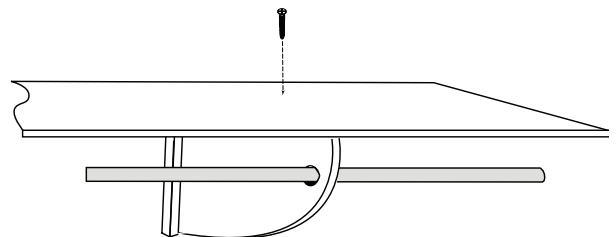

Fig. 11
5. Secure corbel to shelf with one (1) #8 x 1-1/4" screw from above. (See Fig. 11.)